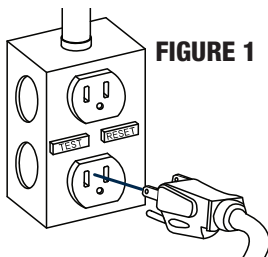

FIGURE 1
- Connect the plug into a 115 V AC grounded outlet. The use of a GFCI is strongly recommended. See figure 1.